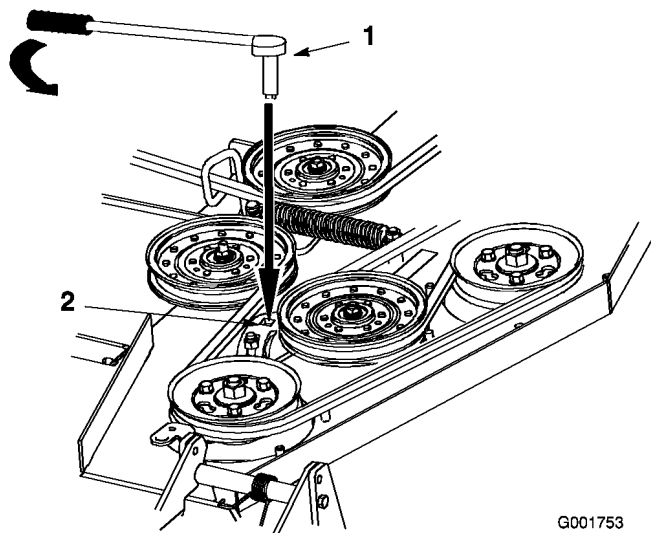

Figure 48
7. Insert a ratchet with a short extension or a breaker bar into the square hole in the fixed idler arm (Figure 48).